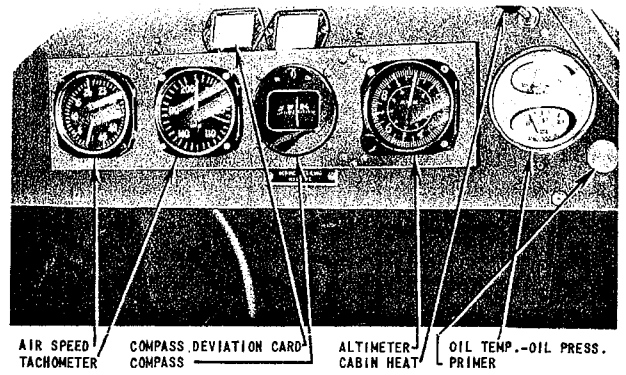

Figure 10—Instrument Panel on the Model L-4H
(3) On the model L-4H (figure 10), the instrument panel contains an oil-temperature and oil-pressure gages, primer knob, and cabin heater knob. The tachometer, compass, air-speed indicator, and altimeter are mounted on a shock-mounted panel in the middle of the instrument panel.